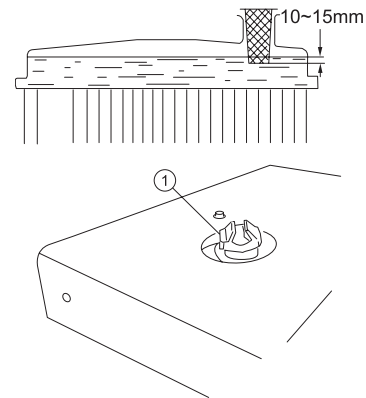

Figure 2-50
Check cooling water level (Figure 2-50)
Turn open the radiator cap (1) (Figure 2-50), and check if the water is at the required level. Add water if necessary.